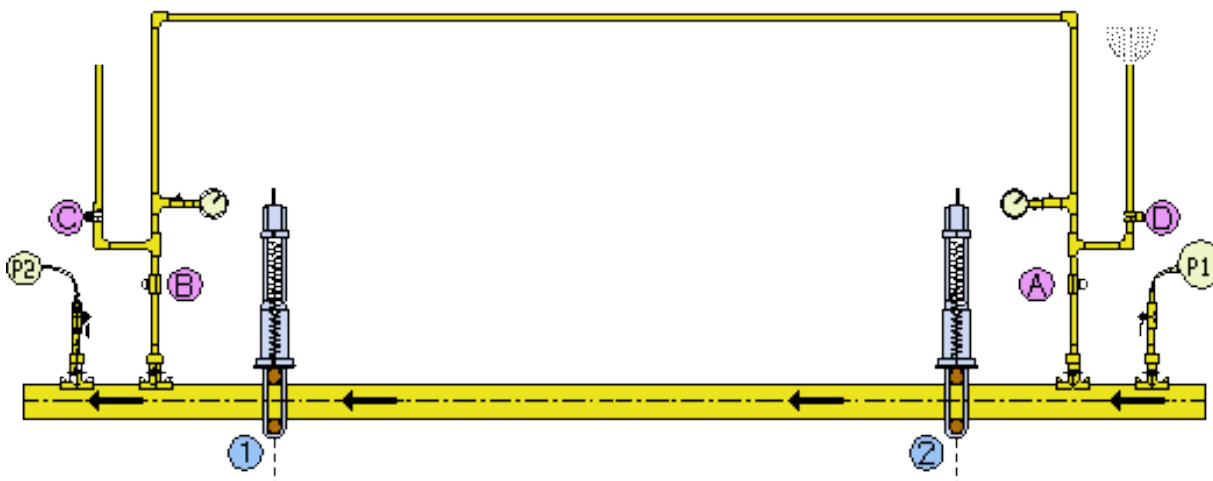

Figure 45- Squeeze-Off Placement
5. Place squeeze-off units, 1 and 2, on the parent main at the marked positions see Figure 45.
8. Fit and connect vent E onto parent main upstream of squeeze-off 1 ensuring minimum distances from squeeze-off position and future tie-ins. See Section E0 and Figure 45.